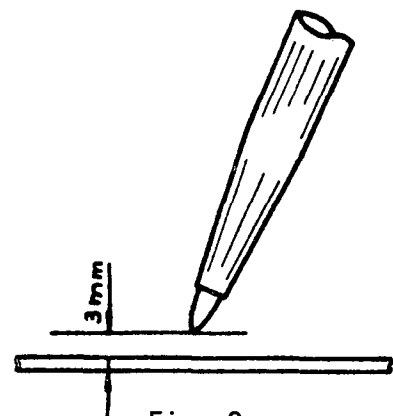

Fig. 2
- c) Bring the cone to a distance of 3mm from the base material (fig. 2).